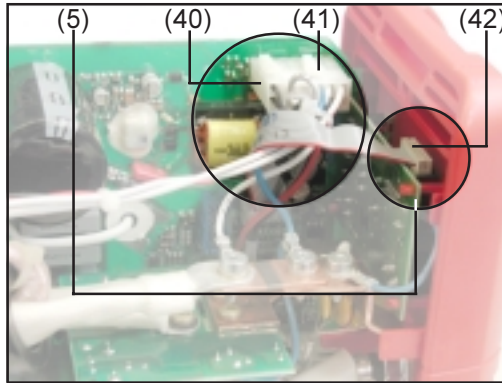

Fig. 19
- Plug the 10-pole Molex plug (41) onto board LCA15
- Plug the 2-pole Molex plug (40) onto board LCA15
- Arrange the ribbon cable (42) above the cable harness, as shown in Fig.19
- Plug the ribbon cable (42) to board FPA15 (5)